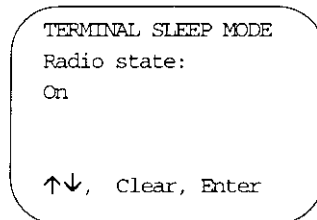

Figure 4-8. Terminal Sleep Mode Screen
- g. Select **Terminal Sleep Mode** from the main configuration menu. The *Terminal Sleep Mode* screen (Figure 4-8) is displayed.